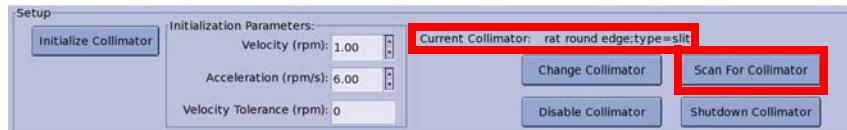

Figure 8-5
3. Press Scan for Collimator and ensure that Current Collimator shows the correct type. (Figure 8-5)